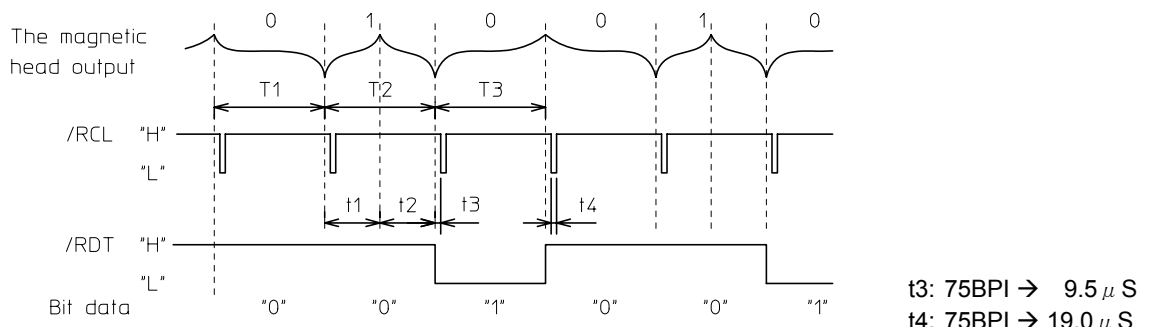

Fig 7.4 Timing chart
- (3) /CLD(CARD LOAD) : When the /CLD line will be Low when a encoded Magnetic Card Reader, and when a encoded Magnetic Card inserts in the end of Magnetic Card Reader the /CLD line will be High.
- (4) /RCL(READ CLOCK) : This is used to sample the data line by it's falling edges. The time relationship of the clock with respect to the order signals is shown in Figure 7.4
- (5) /RDT(READ DATA) : The moment /RCL change from High to Low ; /RDT is "1" when the /RDT line is Low , and /RDT is "0" when the /RDT line is High.